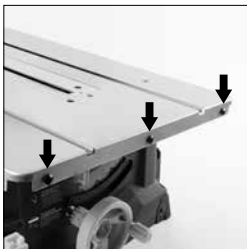

Fig. 3
- Loosely fit the three coach bolts (**G**) within the three holes of the machine using $\varnothing 6$ mm nuts (**H**). Hand tighten only. (**Fig. 3**)